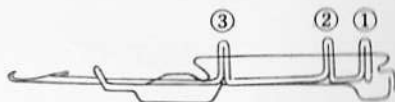

Fig 3
These levers control the movement of the needles when the needles are in the positions shown in Fig. 3.
NOTE: The difference between the Holding Position and Partial Knitting Position will be more easily understood by the following example. Put ten needles in the Partial Knitting position (See P. 28 — Rules For Partial Knitting) by placing them in position (3) Fig. 3, the Holding Cam Levers "up" and the Rising Cam Knobs on "F", move the carriage across the bed. You will see that the needles are moved by the carriage back to normal knitting position. Now push these 10 needles again to Partial Knitting Position but put the Holding Cam Levers "down"; move the carriage across again and you will see that the needles remain where they are.